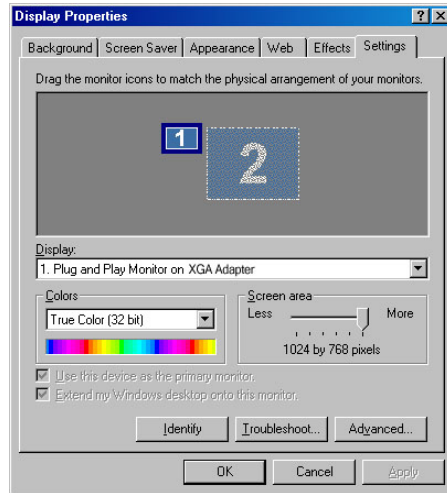

Fig 5.2 Settings tab
- 2) Click **{Settings}** tab, and display the dialog shown in Fig 5.2.
A dialog shown in Fig 5.2 is an example with following condition: